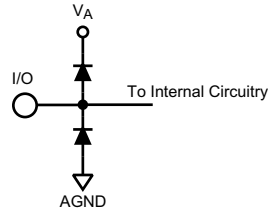

Figure 2.
- (1) The inputs are protected as shown below. Input voltage magnitudes above V_A or below GND will not damage this device, provided current is limited see Note 4 in the Absolute Maximum Ratings table. However, errors in the A/D conversion can occur if the input goes above 2.6V or below GND as described in the Operating Ratings section (See Figure 2).
- (2) To ensure accuracy, it is required that $|V_A - V_D| \leq 100\text{ mV}$ and separate bypass capacitors are used at each power supply pin.
- (3) With the test condition for $V_{REF} = +1.0V$ (2V_{P-P} differential input), the 14-bit LSB is 122.1 μV .
- (4) Typical figures are at $T_A = 25^\circ\text{C}$ and represent most likely parametric norms at the time of product characterization. The typical specifications are not verified.
- (5) I_{DR} is the current consumed by the switching of the output drivers and is primarily determined by load capacitance on the output pins, the supply voltage, V_{DR} , and the rate at which the outputs are switching (which is signal dependent). $I_{DR} = V_{DR}(C_0 \times f_0 + C_1 \times f_1 + \dots C_{11} \times f_{11})$ where V_{DR} is the output driver power supply voltage, C_n is total capacitance on the output pin, and f_n is the average frequency at which that pin is toggling.
- (3) With the test condition for $V_{REF} = +1.0V$ ($2V_{P-P}$ differential input), the 14-bit LSB is $122.1\text{ }\mu\text{V}$.